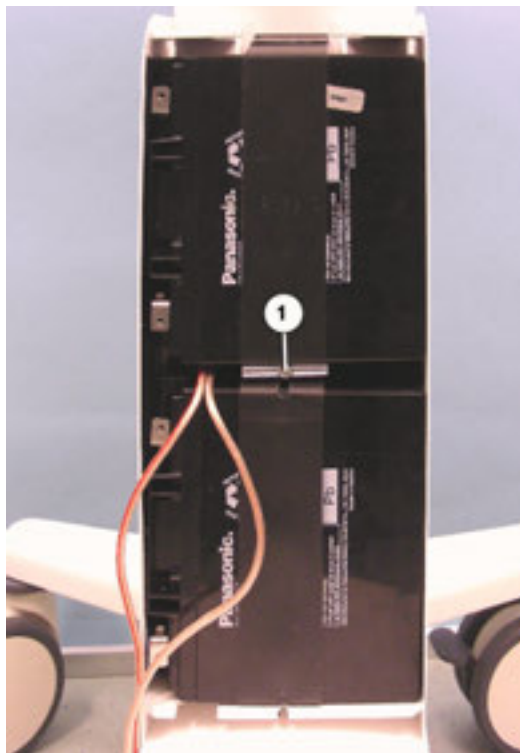

Fig. 104 External batteries: Screw (strap)
- 6 Loosen the screw (Fig. 104/1) initially just two turns.